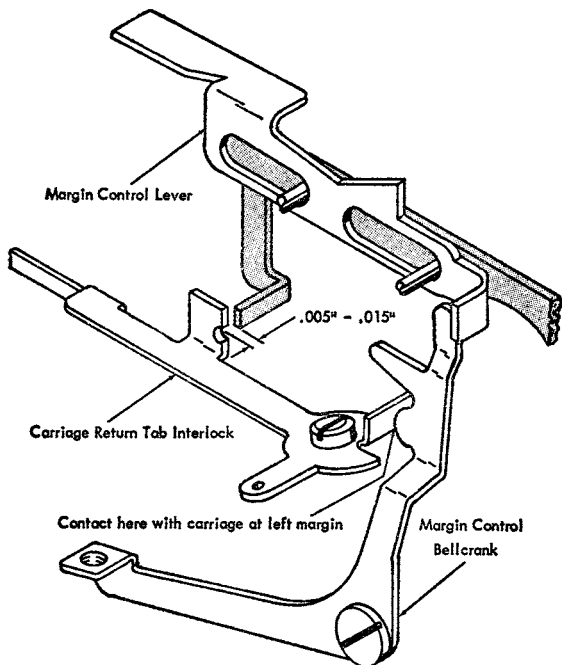

Figure 30. Carriage Return Tab Interlock Adjustment
B. With the carriage at the left margin form the interlock so it clears the tab-lever lug by .005" to .015" when the left-hand lug of the interlock contacts the margin-control bellcrank (Figure 30).